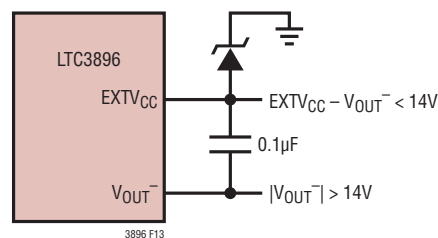

Figure 13. Using a Zener Diode Between $EXTV_{CC}$ and Ground
4. $EXTV_{CC}$ connected to ground through an external Zener diode. If the output voltage is more negative than -14V , a Zener diode can be used to drop the necessary voltage between ground and $EXTV_{CC}$ such that $EXTV_{CC}$ with respect to V_{OUT-} remains below 14V (Figure 13). In this configuration, a bypass capacitor from $EXTV_{CC}$ to V_{OUT-} of at least 0.1 μF is recommended. An optional resistor between $EXTV_{CC}$ and V_{OUT-} can be inserted to ensure adequate bias current through the Zener diode.